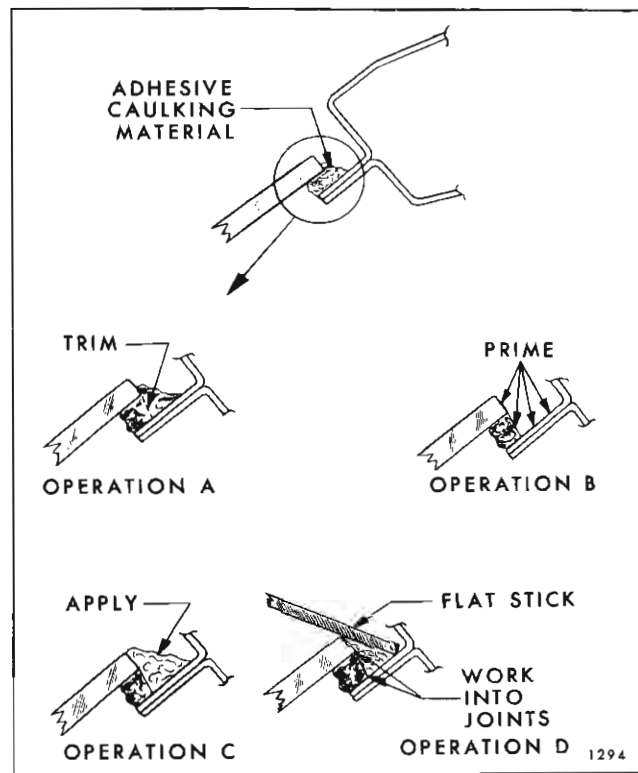

Fig. 1F6—Correction of Adhesive Caulked Glass Installation Waterleaks
4. Using a sharp knife, trim off uneven edge of adhesive caulking material (see Operation "A" in Fig. 1F6) at leak point and three to four inches on both sides of leak point or beyond limits of leak area.
5. Using a small brush, apply adhesive caulking material primer over trimmed edge of adhesive caulking material and over adjacent painted surface (see Operation "B" in Fig. 1F6).